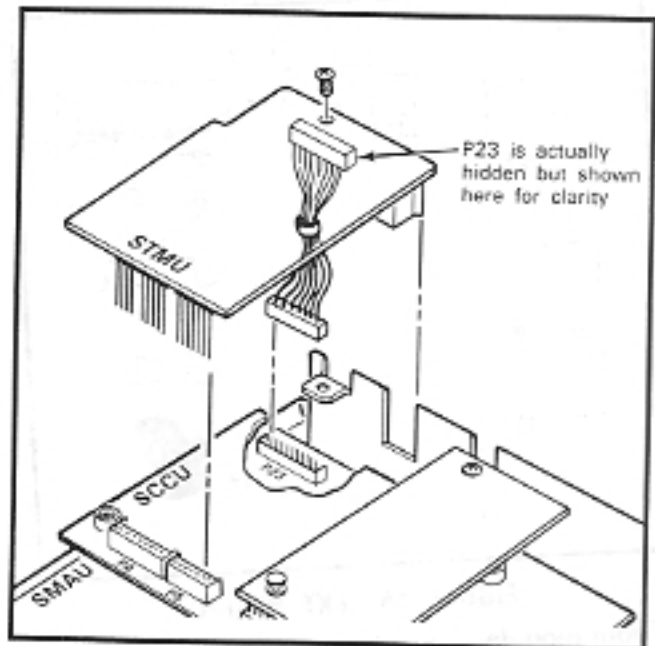

FIGURE 13—STMU LOCATION
05.92 Refer to Figure 13, and insert connectors P4 and P5 on the STMU into the P4 and P5 connectors on the SCCU. Route the provided jumper cable from the STMU P23 connector to the P23 connector on the SMAU.